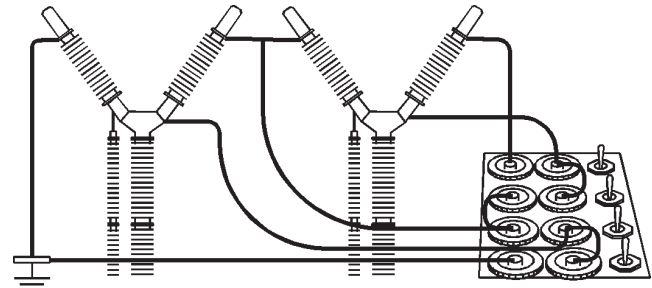

Figure 5.3.
- Do not exceed the input voltage limit of 250 V AC or 400 V DC. If two or more inputs are connected in series, change the polarity at every other input. (See Figure 5.3.)
- See Figure 5.3.